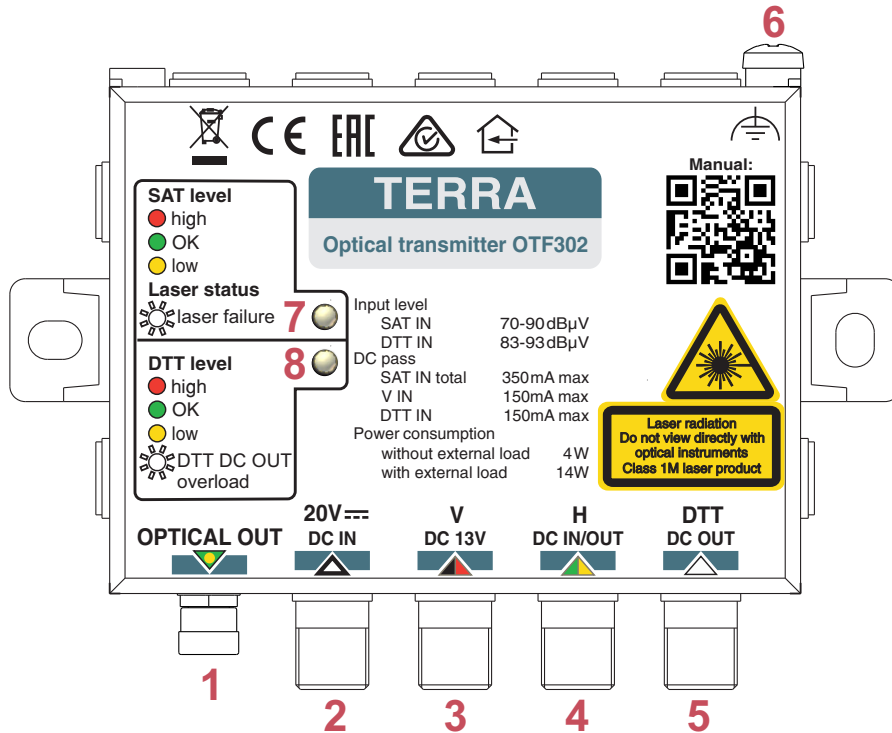

Figure 2. External view of the transmitter
The transmitter can be powered through DC IN or H inputs (pos. 2, 4 Figure 2).